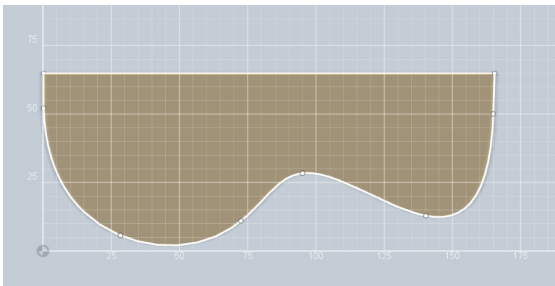

Figure 4-134 Adjust the curves by clicking and dragging on the white anchor points along the spline
5. Now with your sketch closed, you can refine the shape by selecting and dragging the white anchor points up, down, and side to side (Figure 4-134).